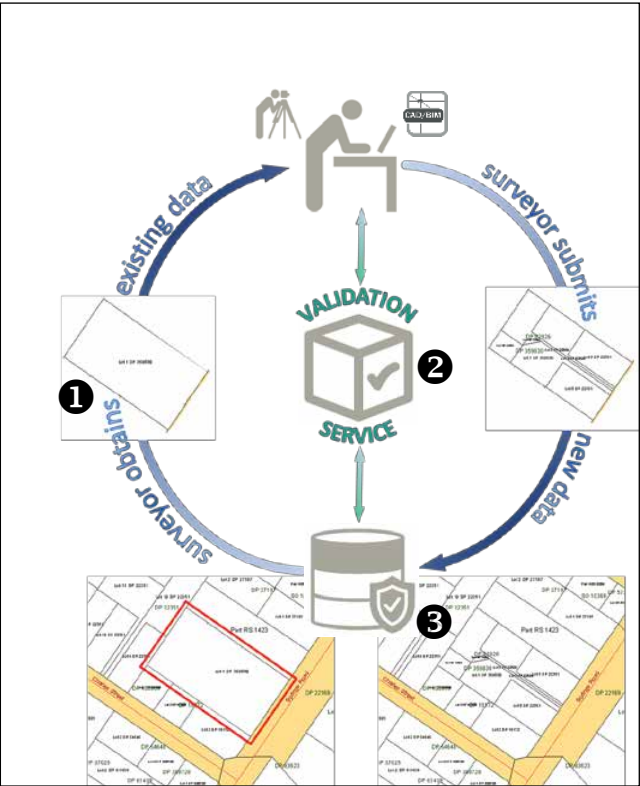

Figure 5. The cycle of digital cadastral survey data. Adapted from Gulliver, Haanen & Goodin (2017)
The practice of surveying is already fully digitally enabled. Existing digital data from the cadastre is able to be uploaded into survey office applications and field equipment (see ① in Figure 5), and all new measurements, including from GNSS, are captured digitally. The digital transfer of this data to other applications, particularly survey calculation software, helps avoid errors and ensure the integrity of the survey data.
of the dataset. Mathematical, topological, and spatial tests can be applied to the data, including by comparing it to existing data, such as an underlying survey already held in the cadastre. Provision of a ‘Validation Service’ (via an API – Application Programming Interface) that is accessible from both survey software and to cadastral survey system validation staff would provide efficiency (avoiding duplication of tests) and help ensure quality by detecting errors early in the cycle (see ② in Figure 5).
Once the survey dataset has been quality assured, it can be safely recorded in the authoritative cadastre. This can be a simple record of each independent survey. However as each parcel boundary is also the boundary of the neighbouring parcel, and the boundaries of that parcel are also common with its neighbours, each survey can be integrated into the cadastral survey network as if the whole country were covered by a single continuous survey network (see ③ in Figure 5).